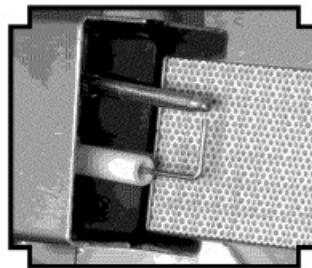

Figure 17-1 - Proper rotis thermocouple position.
- If the burner will only stay lit with the control knob depressed, the thermocouple position may need to be adjusted (see Figure 17-1) to ensure proper function.